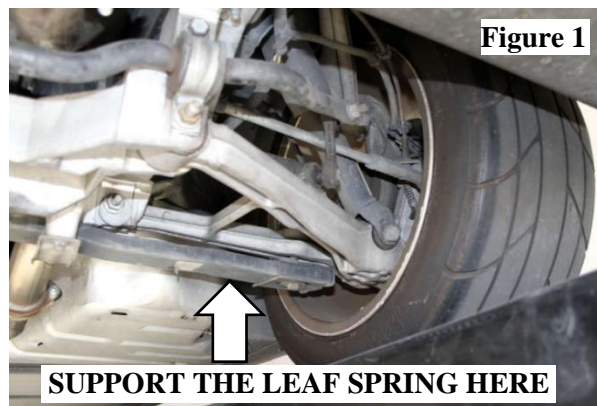

Figure 1
4. Support the leaf spring near the lower control arms to contain any remaining spring energy. **(Figure 1)**